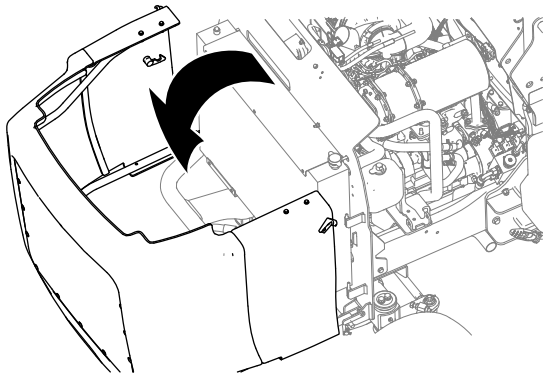

Figure 66
5. Unlatch and open the hood (Figure 66).